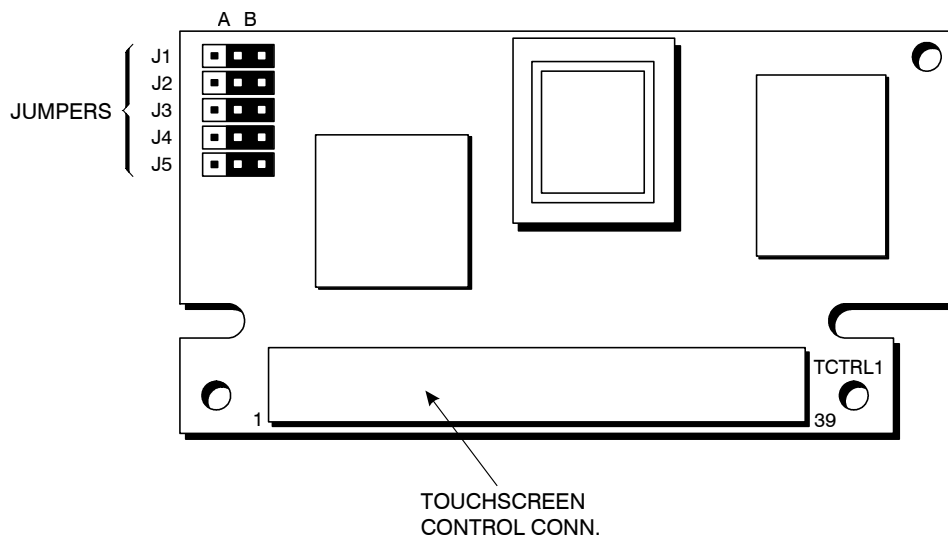

Figure 3-18A. Touchscreen controller card
3. Remove the touchscreen controller card (see Figure 3-18A).